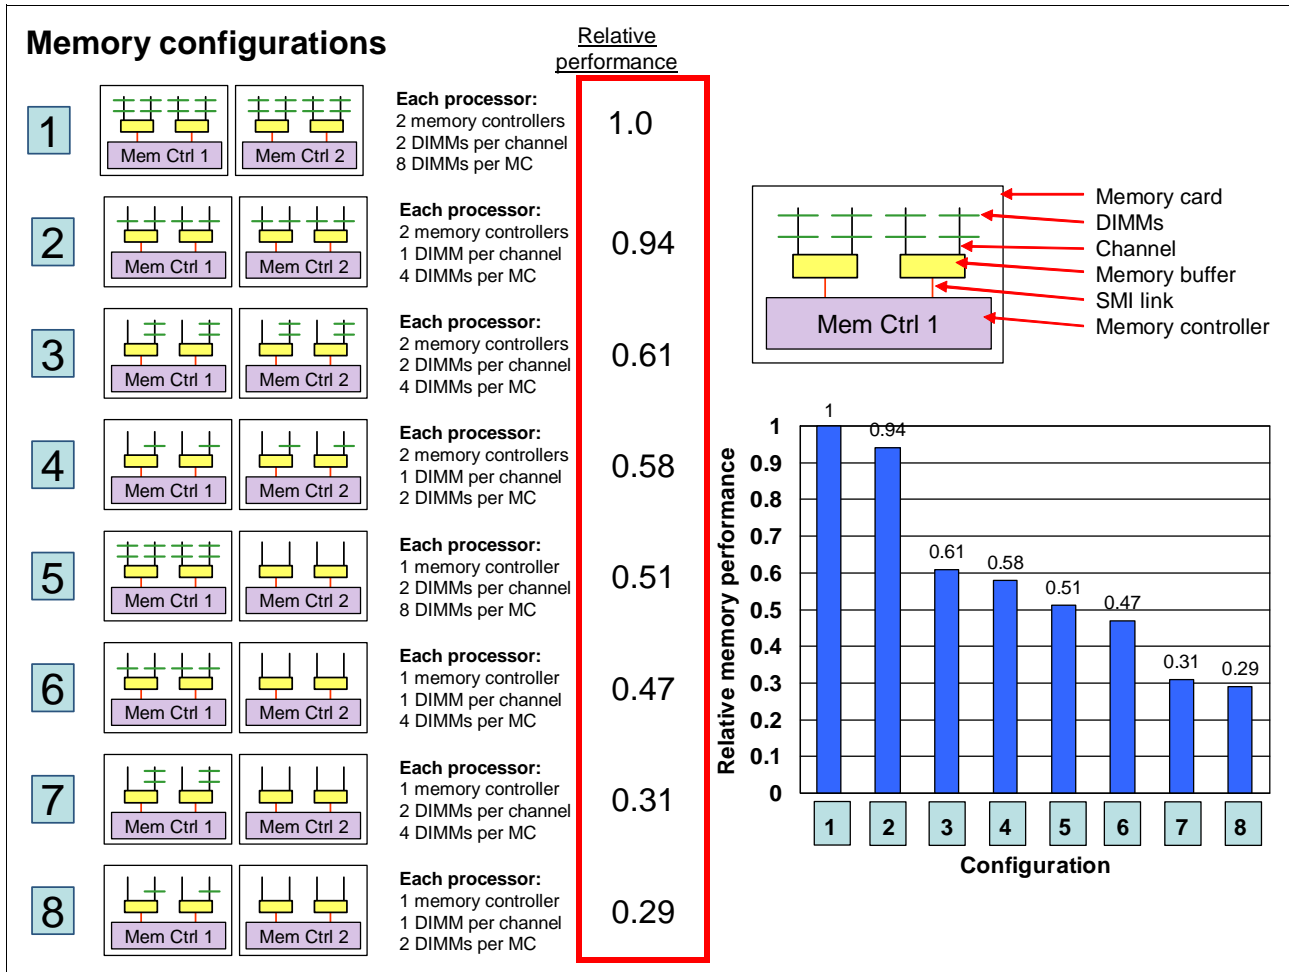

Figure 2-6 Relative memory performance based on DIMM placement (one processor and two memory cards shown)
Figure 2-6 on page 24 shows eight possible memory configurations for the two memory cards and 16 DIMMs connected to each processor socket in an x3850 X5. Similar configurations apply to the x3690 X5 and HX5. Each configuration has a relative performance score. The following key information from this chart is important:
- ▶ The best performance is achieved by populating all memory DIMMs in the server (configuration 1 in Figure 2-6 on page 24).